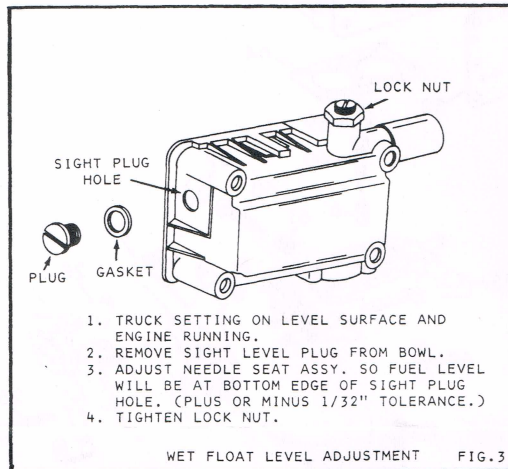

FIG. 3
3. BOWL VENT ADJUSTMENT: WITH THROTTLE VALVE FULLY CLOSED, DISTANCE BETWEEN TOP OF FUEL BOWL AND VENT BUTTON SHOULD BE $1/16"$. TO ADJUST, BEND VENT ARM AT ACCELERATING PUMP LEVER. CAUTION: FORD AND MERCURY NO ADJUSTMENT REQUIRED. (SEE FIG. 3).
7. DASHPOT ADJUSTMENT: THIS ADJUSTMENT IS MADE WITH CARBURETOR SET AT PROPER IDLE SPEED. DEPRESS DASHPOT PLUNGER FULLY. THE DISTANCE BETWEEN THE PLUNGER AND THROTTLE LEVER SHOULD BE $5/64"$. TO ADJUST, LOOSEN LOCKNUT AND ROTATE DASHPOT ASSEMBLY. RETIGHTEN LOCKNUT. (SEE FIG. 3).
BOWL VENT AND DASHPOT ADJUSTMENT Fig.3